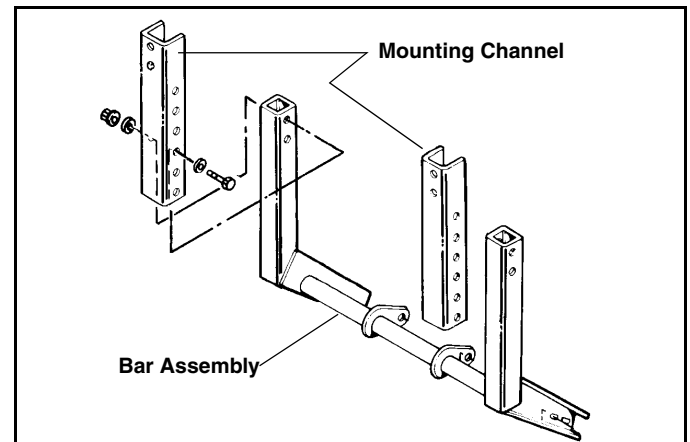

Figure 5
2. Attach Mounting Channels (#96104794) to Lower Bar Assembly using four (4) 3/8" x 3" Capscrews (#98009258), Washers (8 req.) and Nylock Nuts Provided. (Figure 5)